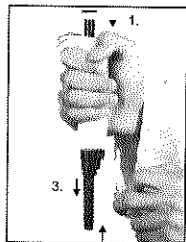

Fig. 8
- Place the tooth of the opening tool between the tip ejector and the tip ejector collar to release the locking mechanism (Fig. 8).